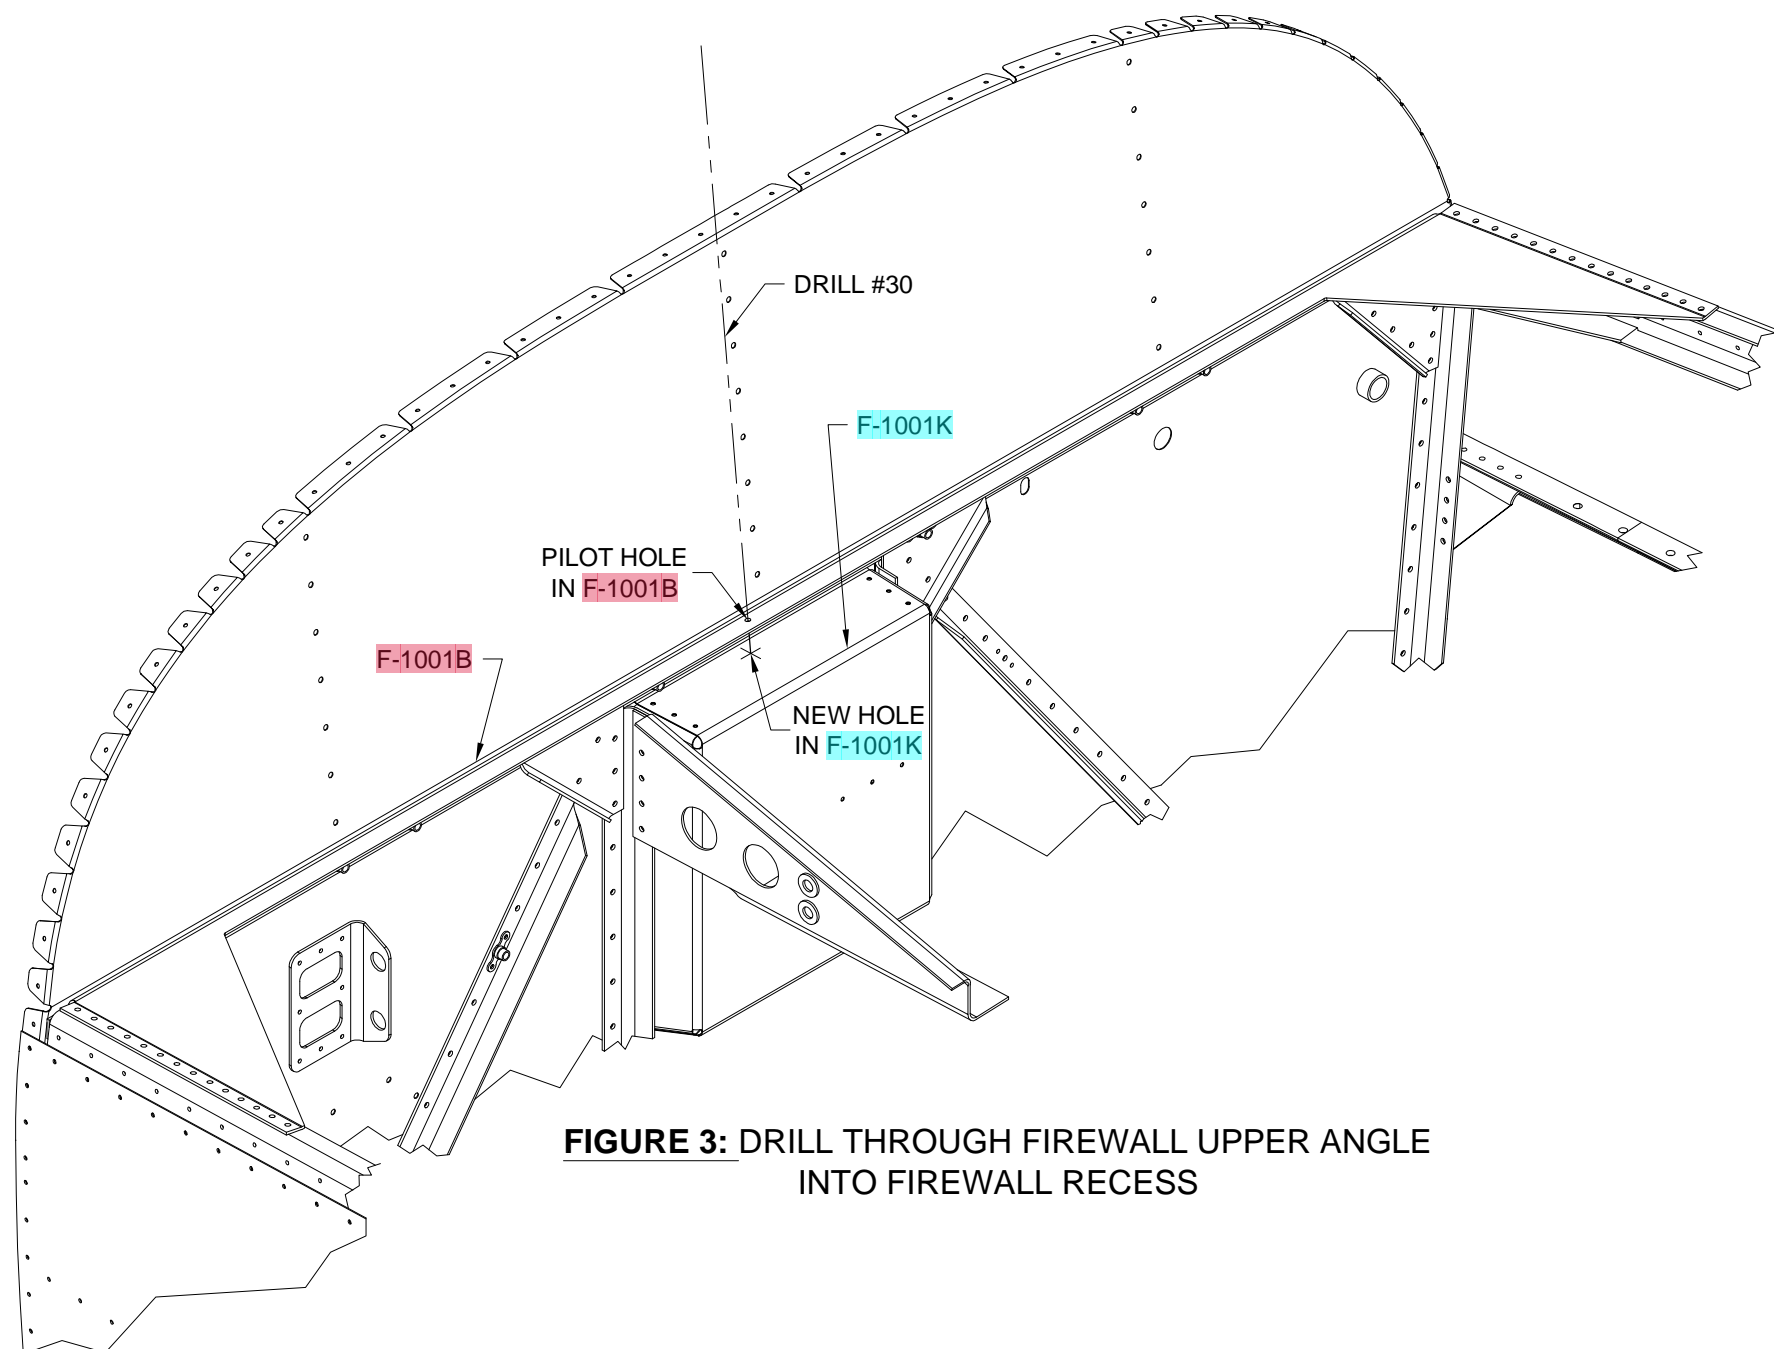

FIGURE 3: DRILL THROUGH FIREWALL UPPER ANGLE
Step 3: Using a long #30 drill bit, drill downward through the pilot hole near the middle of the F-1001B Upper Firewall Angle and through the upper surface of the F-1001K Firewall Recess. See Figure 3.
Step 2: Match-Drill #30 upward through the pilot hole in the upper surface of the F-1001K Firewall Recess, through the pilot hole in the F-1001B Upper Firewall Angle and into the forward tab of the F-1044B Angle. See Page 31-5Q, Figure 3.